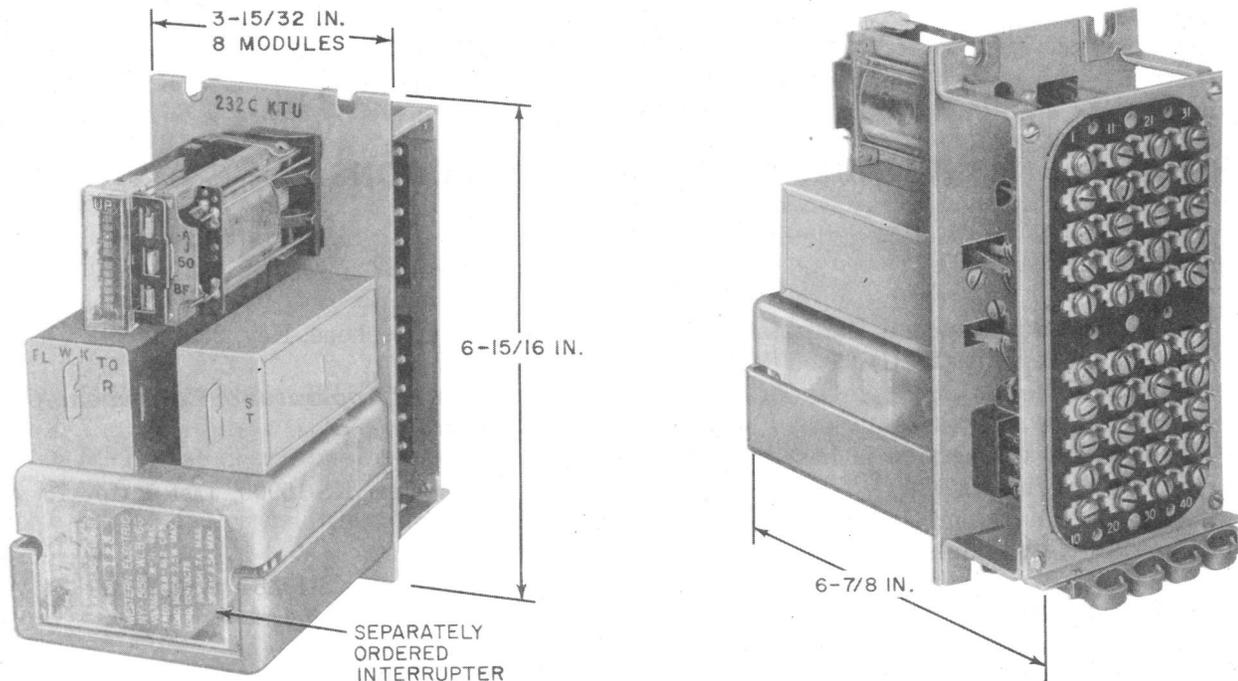

Fig. 1—232C Key Telephone Unit
2.01 The 232A (MD), 232B (MD), or 232C KTU equipped with an optional 10-volt ac or 24-volt dc plug-in interrupter (Fig. 1) furnishes timing intervals and features for key telephone systems (KTS) as follows:
2.11 The interrupter unit is installed as shown in Fig. 1. When installing, ensure that the unit is fully seated into the socket and held firmly in place by the adjustable bracket. The plug-in arrangement simplifies unit replacement. The bracket must be removed to install or remove the interrupter unit.